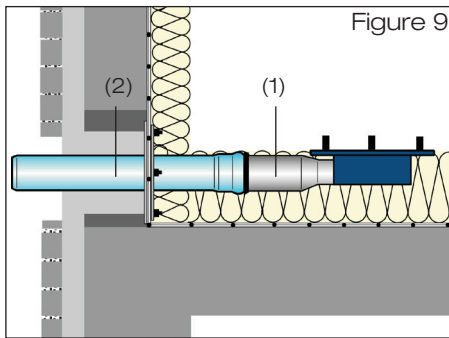

Figure 9
- 3.1 Adjust the length of the discharge pipe (1) of the drain on site. Apply LORO-X lubricant to the gaskets of the sliding flange and the pipe ends (2) of the LORO-X pipe. Cut out the thermal insulation panel in the area of the drain basin. According to the flat roof regulations, the fixed flange of the roof drain should be flush-mounted into the substrate. Insert the LORO-X pipes into the gaskets of the sliding flange. Insert the sealing element into the pipe socket and coat with LORO-X lubricant. Apply LORO-X lubricant to the discharge pipes of the drain. Insert the discharge pipes into the sealing elements of the LORO-X pipe. Fasten both the drain and the thermal insulation panel (Fig. 9). Close up any holes that have been made in the thermal insulation using suitable materials. Apply adequate quantities of thermal insulation to the discharge pipes in the area of the wall. Lay thermal insulation panels.